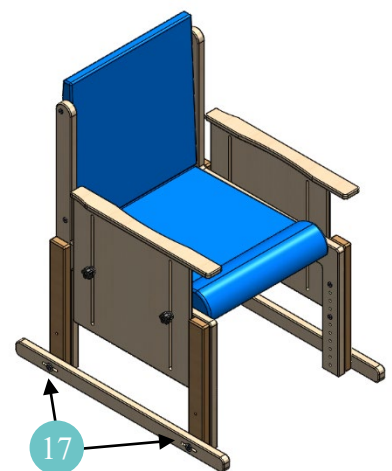

Figure 13
- The screws fit into the chair outriggers on each side of the chair (Ref. 17 of Figure 13).
- The depth of the ski can be adjusted by loosening the four screws (Ref. 17 of Figure 13), position the ski in the desired position and tighten all four screws (Ref. 17 of Figure 13).